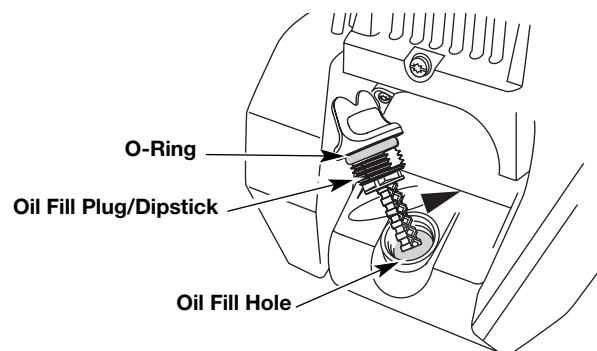

Fig. 20
- If the level is low, add a small amount of oil to the oil fill hole and recheck (Fig. 20). Repeat this procedure until the oil level reaches the top of the dipstick.
**NOTE:** Make sure the O-ring is in place on the oil fill plug/dipstick when checking and changing the oil (Fig. 20).